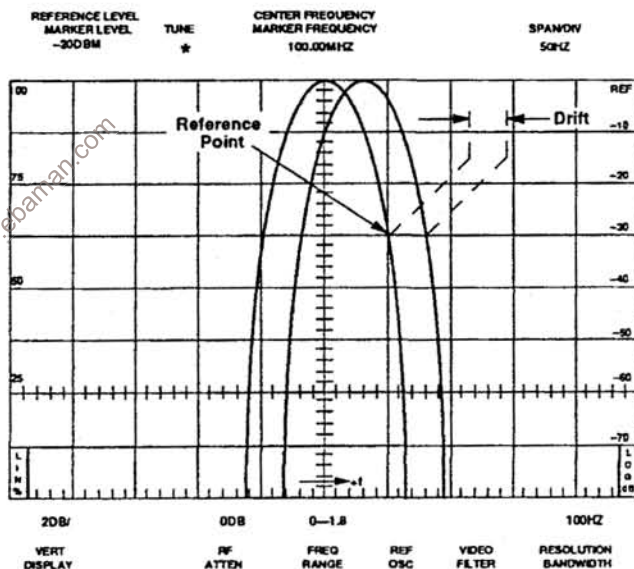

Figure 4-4. Center frequency drift with 1st LO locked.
- d. Tune the CENTER FREQUENCY to establish a reference at the intersection of two graticule lines and activate SAVE A. See Figure 4-4.
- f. Observe the drift of the displayed signal in relation to the reference for 60 seconds. See Figure 4-4.